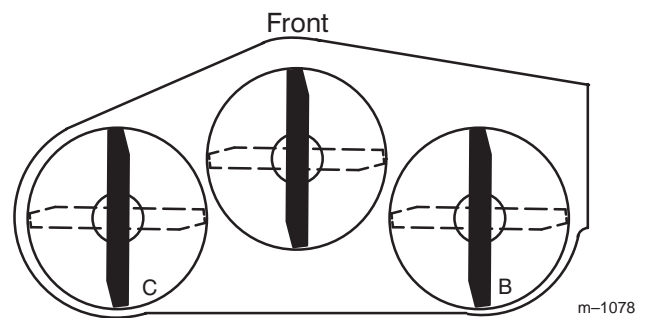
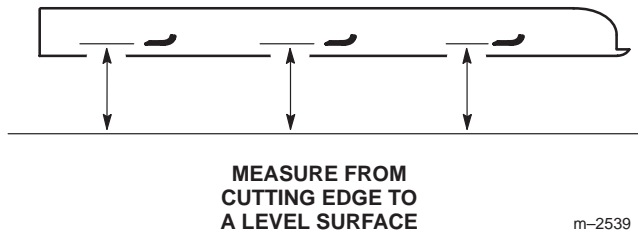

Figure 49
Figure 50
1. Position the **right** blade front to rear (Fig. 49).
2. Measure the right blade at the **B** location (Fig. 49), from a level surface to the cutting edge of the blade tip (Fig. 50).
4. Position the **left** blade front to rear (Fig. 49).
5. Measure the left blade at the **C** location (Fig. 49), from a level surface to the cutting edge of the blade tip (Fig. 50).